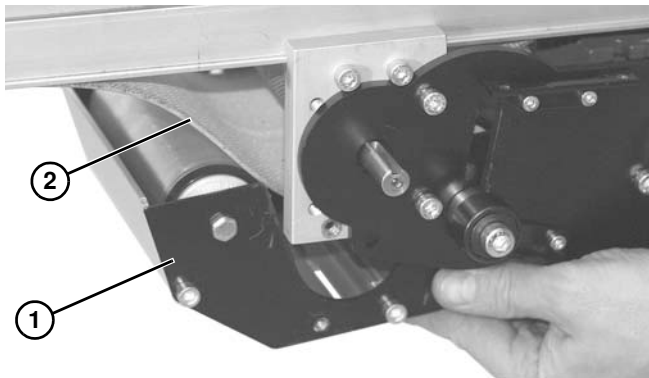

Figure 51
3. Lower and remove mid drive module (Figure 51, item 1) from belt (Figure 51, item 2).